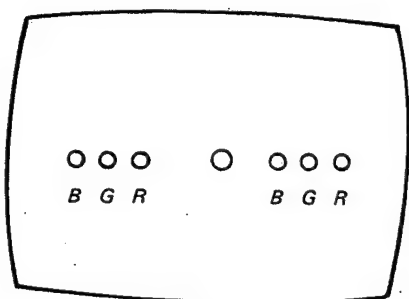
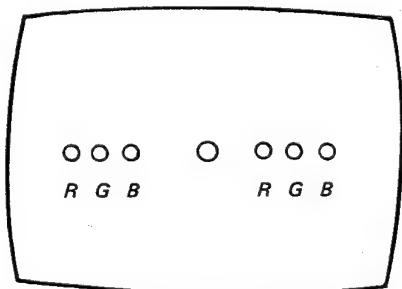

Fig. 3-10.
Fig. 3-11.
2. Adjust the TILT control (VR604) to obtain the best horizontal convergence at both sides of screen. If correct convergence cannot be obtained, turn the TILT control to display the dot pattern as shown in Fig. 3-10 or Fig. 3-11.
3. If misconvergence is as shown in Fig. 3-10, reduce the capacitance value of C605. (Try the next smaller commercial value.) It will probably be necessary to reset the horizontal static convergence control (H-STAT 625L) after C605 has been changed. Readjust the TILT control, if necessary.
4. If misconvergence is as shown in Fig. 3-11, increase the capacitance value of C605. (Try the next larger commercial value.) It will probably be necessary to reset the horizontal static convergence control (H-STAT 625L) after C605 has been changed. Readjust the TILT control, if necessary.